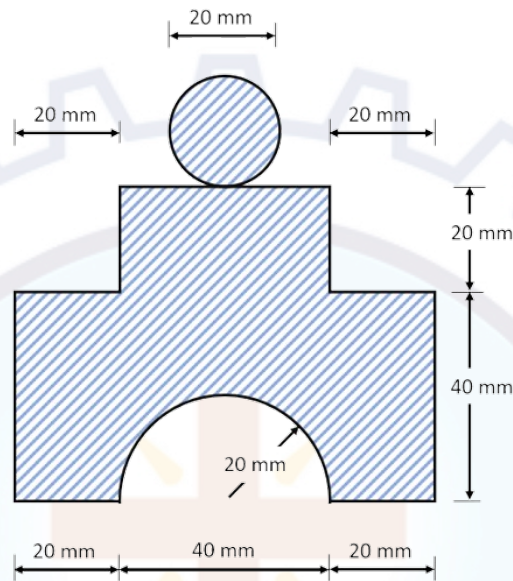

Figure 10
18. Determine the moment of inertia and radius of gyration of the given area shown in Figure 10 about the horizontal centroidal axis. (14 marks)